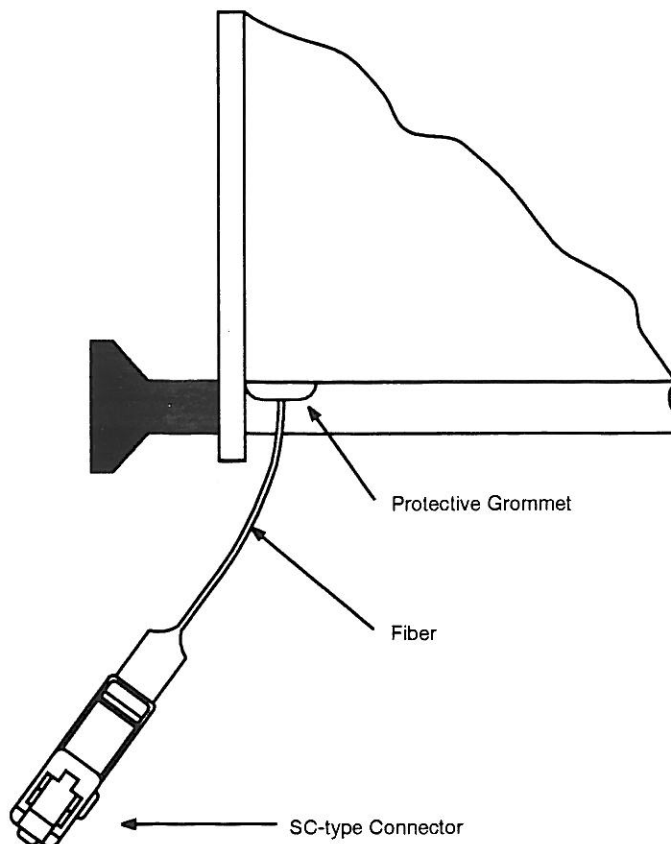

Figure 3-9. Routing Fiber from Module
6. Detach the SC-type connector from the adapter. Uncoil enough fiber from within the module to reach the adapter location that is external to the shelf. This location can be up to 25 feet from the transmitter. The fiber shall be routed externally through the access hole located in the cover (see Figure 3-9). Route the fiber through the protective grommet. Ensure that the minimum bend radius is 1 inch because sharp bends will degrade system performance. Ensure that at least one coil of fiber is left on the fiber management clips, for strain relief.